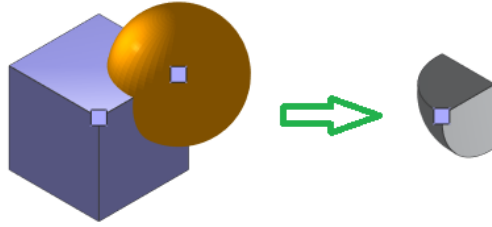

Figure 7.38 Intersect operation
(2) Intersect: Extracting the parts of the two operating regions where the parts overlap each other, as shown in Figure 7.38.